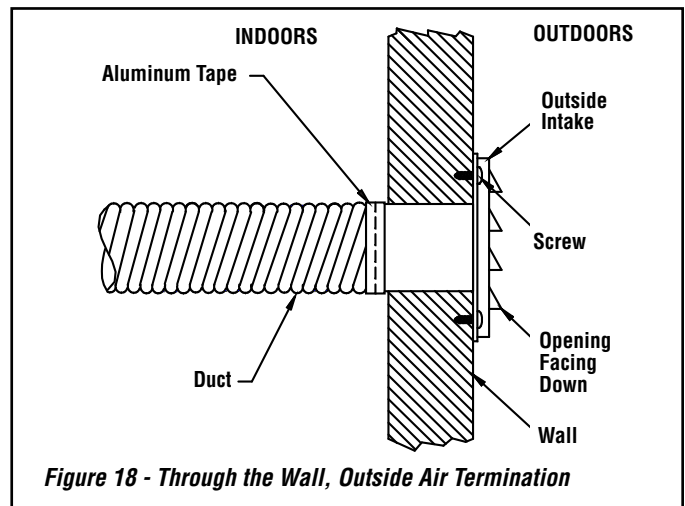

Figure 18 - Through the Wall, Outside Air Termination
- The air intake register must not be installed more than ten (10) feet above the base of the stove.
- Make a 4-1/4" hole in the outside wall of the house at the chosen location. From outside, place the outside air register in the hole (open side down) and fasten the register to the wall, with screws as shown (see **Figure 18**).
- Attach the duct to the coupler on stove (see **Figure 18**). Using the aluminum tape provided, wrap the tape around the joint between the flexible duct and the air inlet.